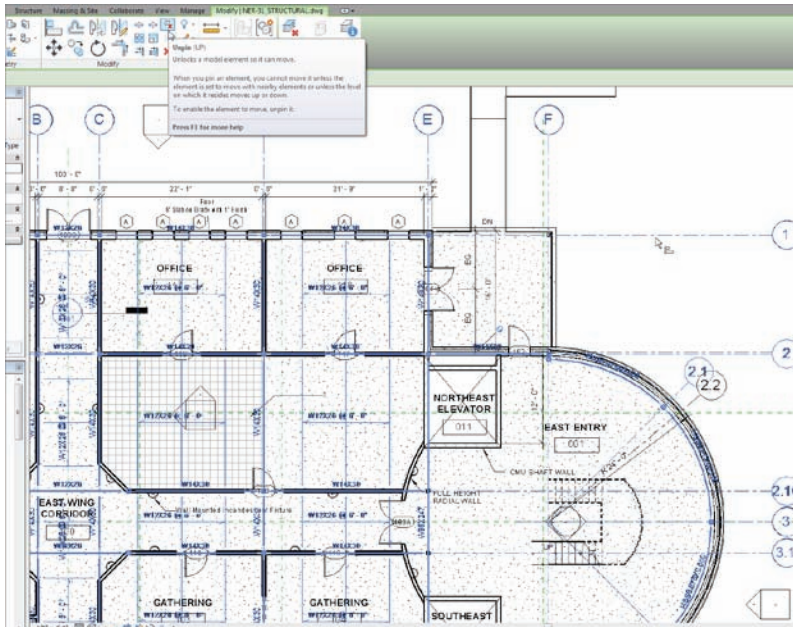

FIGURE 20.22 Unpinning and aligning the reference
16. On the View Control bar, click the Wireframe button so you can see the AutoCAD structure, as shown in Figure 20.22.
18. Go ahead and align column lines A and 1 as shown in Figure 20.22.